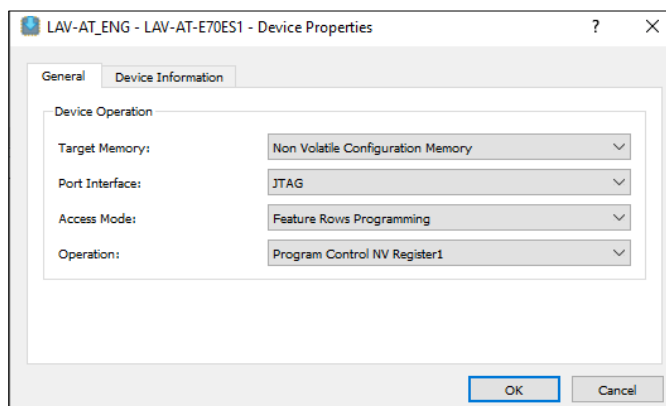

Figure A.1. One-Time Programmable Control NV Register1
3. Change bit 0 to 1 for 32-bit SPIM Address and 32-bit SPIM Commands as shown in Figure A.1. For changing these bits, click once on the 0 values in the Chip Value row.